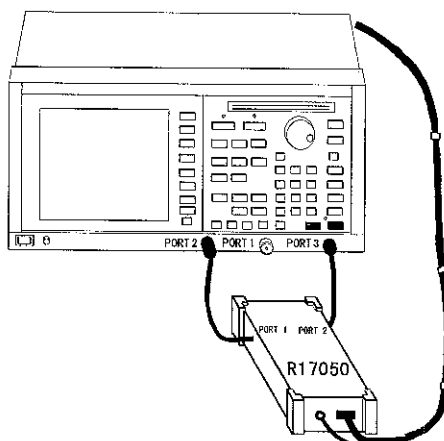

Figure 2-13 RF Port Connection
7. Connect cables between the RF ports of the instrument and PORT 2 and PORT 3 of the network analyzer (see Figure 2-13).